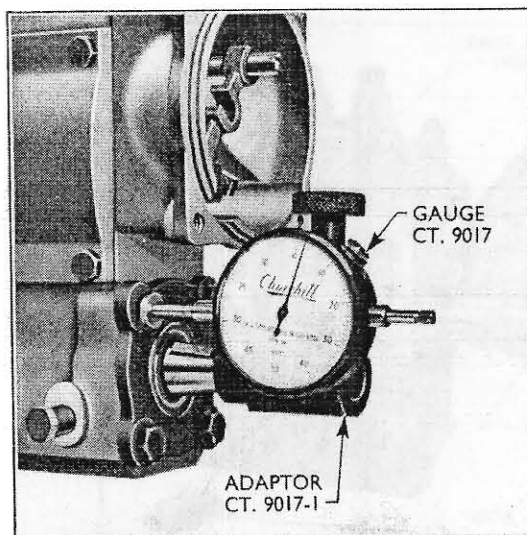

Fig. 17.
It is advisable to check the camshaft end-float at this stage with the special gauge (Tool No. CT.9017) and adaptor (Tool No. CT.9017-1) as shown in Fig. 17. The end-float should be between 0.002 and 0.006 in. (0.05 to 0.15 mm.) and should adjustment be necessary it can be made when reassembling the camshaft.
4. Position the camshaft in the cambox, pack the bearings with high melting point grease, apply a thin coating of jointing compound to the bearing housing flanges and gently tap the housings into position. Replace the housing retaining screws (the pump timing plate fits under the two outside screws retaining the coupling end bearing housing) and spring washers, and recheck the camshaft end-float (see Fig. 17) which should be between .002 to .006 in. (.05 to to .15 mm.).